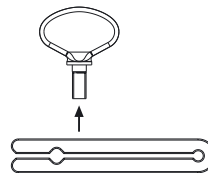

Fig. 8
- Dismount the handle, see Fig. 8.